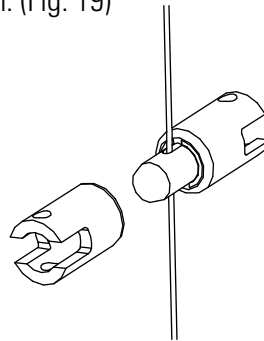

Figure 17
- A. To install this cable balancer, only one cable bullet is required. (Fig. 17) Slide the cable balance bullet onto the cable as done in **Step 3-A**